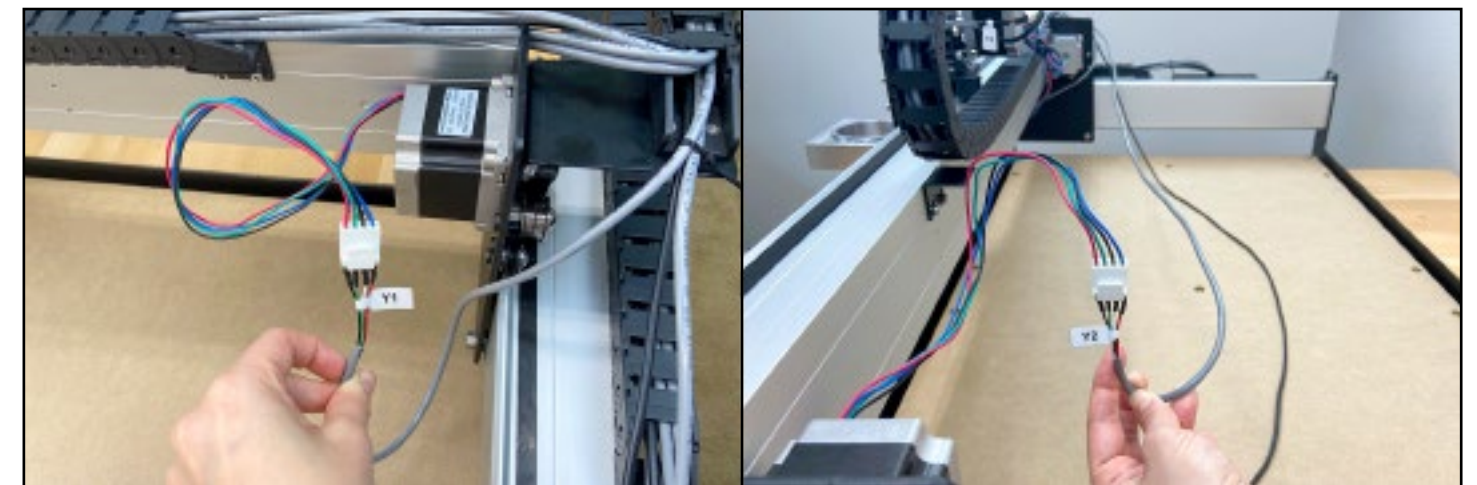

Figure 8-10
2. Connect the Y1- and Y2-stepper motor leads to the labeled gray 4-pin extension cables. See **Figure 8-10**.